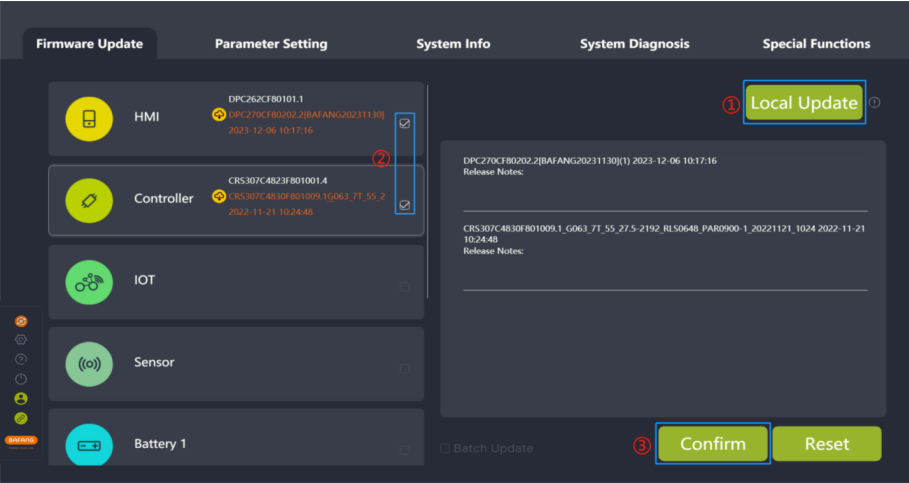

Fig 4-15 Local update
- 1. **Local update:** Click "Local Update". After selecting multiple firmwares to be updated from the local area, check the components to be updated (Figure 4-15).